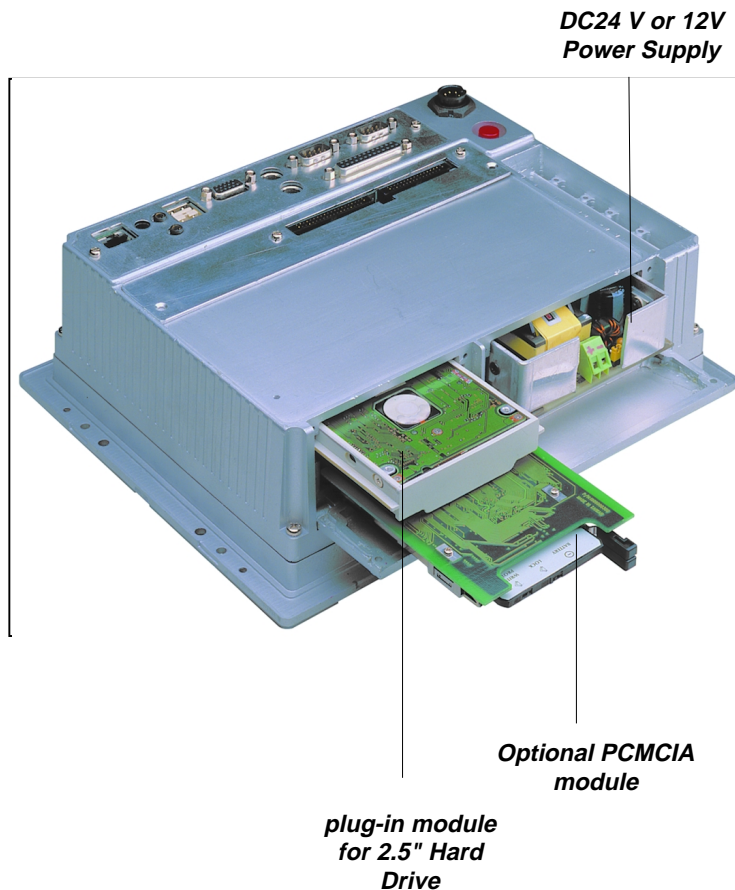

Figure2-5: Install or remove the power supply,HDD drive,and PCMCIA module
4. Unscrew the two screws of the cover on the top side of PPC-A84 (See Fig.2-5). Open the cover.